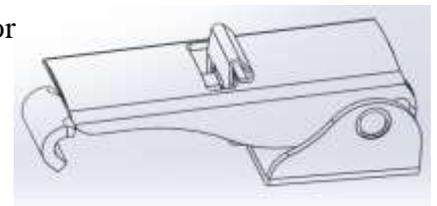

Fig. 2
2. Release the over centre latches (where fitted) and remove the rear or bulk vibratory feed tray. If latches are not fitted, the tray is usually cleaned in its normal working position, but can be un-bolted from the rear vibrator unit for complete removal. (see Fig. 2 for a typical example of a latch)
3. Release the over centre latches (where fitted) and remove the front or fine vibratory feed tray. If latches are not fitted, the tray is usually cleaned in its normal working position, but can be un-bolted from the front vibrator unit for complete removal. (see Fig. 2 for a typical example of a latch)